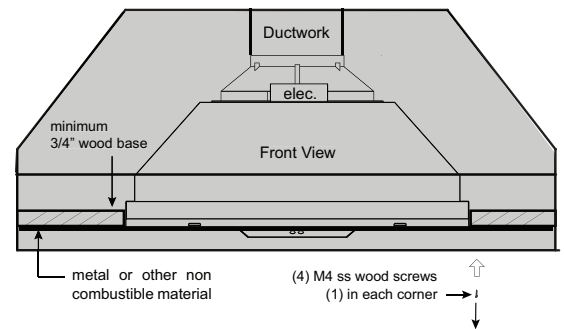

FIG 2
5. Lift Power Pack into opening and secure to bottom of cabinet using (4) M4 stainless steel screws, (1) in each corner; see (FIG 2).